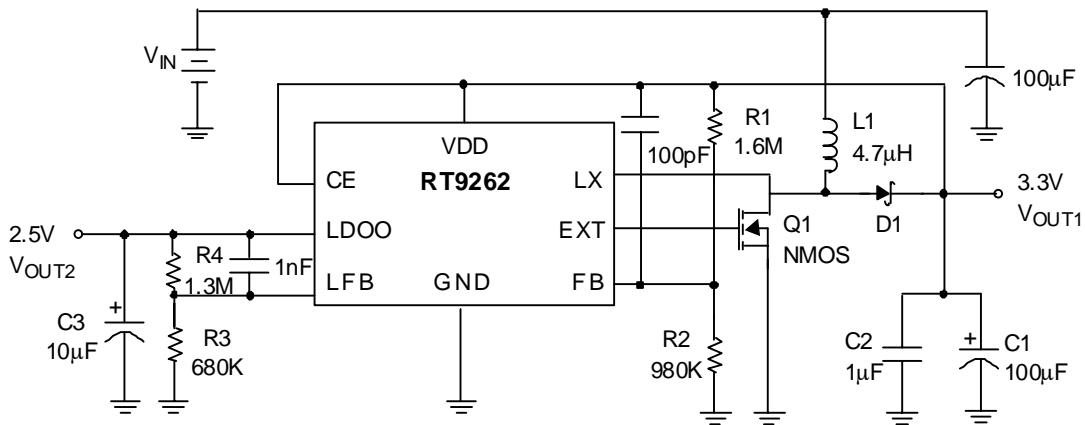

Fig. 4 0.4A ~ 2A Output Current Application
- The following diagram is an example of 2-layer board layout for application circuits Fig.1 to Fig.4.